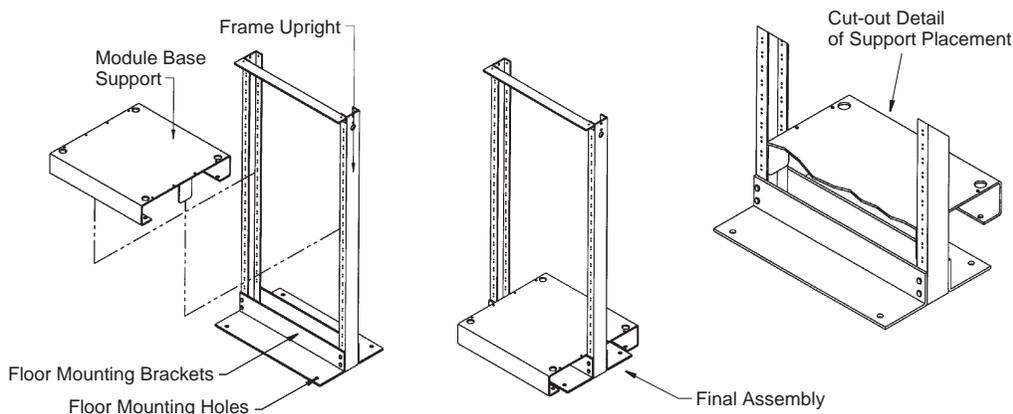

Figure 6-4: Base Support Placement
Special order Unigy® II modules designed for installation in 23" relay racks may be assembled as follows (refer to Figures 6-4 through 6-6):
1. Attach the floor mounting brackets to the frame upright. (See Figure 6-4.)